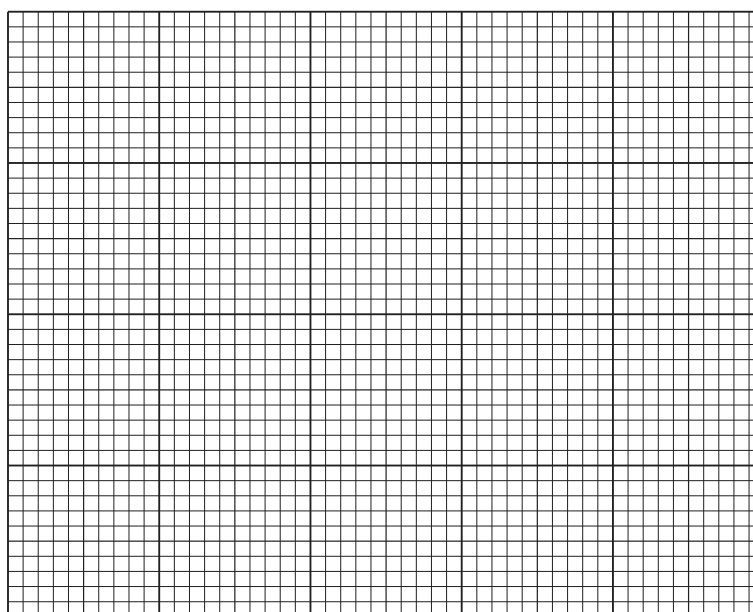

Fig. 1.4
- (i) Draw a bar chart of the data in Table 1.3 on the grid in Fig. 1.4.